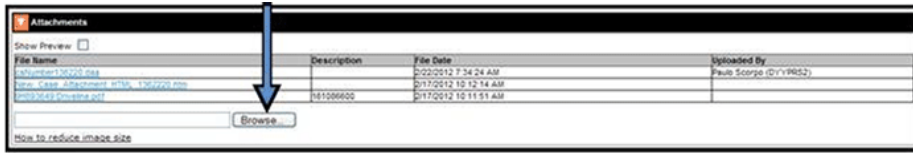

Figure 3
1. From case file home page, select 'Browse' (Figure 3).